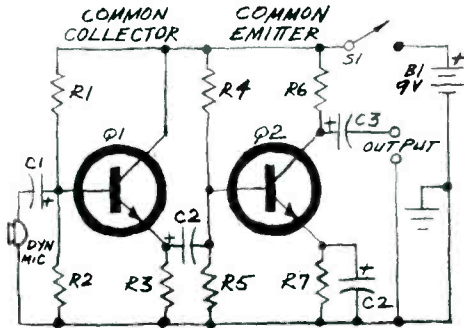

Fig. 5. Draw basic circuit diagram.
• 4. Now we can draw a preliminary design, such as that shown in Fig. 5. The battery supply is included, capacitors are marked for polarity, and components are numbered for reference.